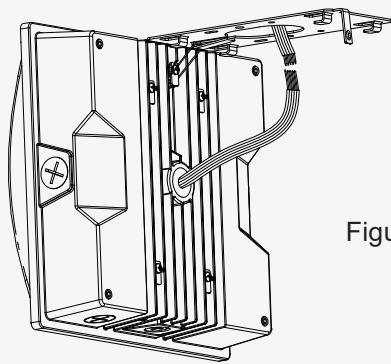

Figure 6
4. Hang the fixture by the plate (Figure 6), then connect to local power supply with necessary wiring protection.